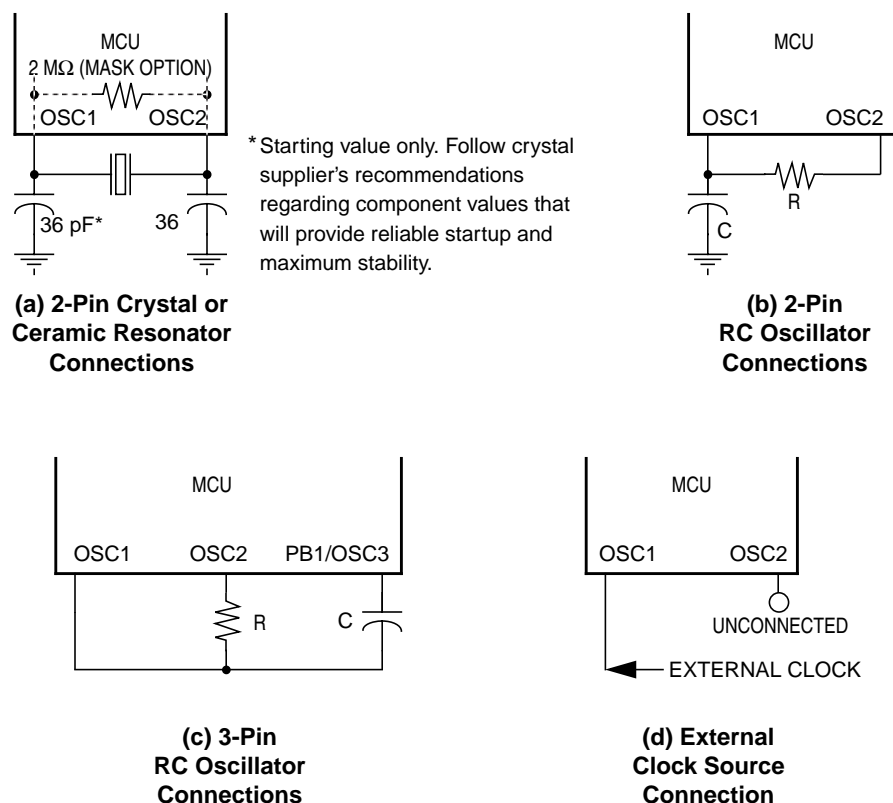

Figure 1-5. Oscillator Connections
1. A crystal, as shown in Figure 1-5\(a\)
2. A ceramic resonator, as shown in Figure 1-5\(a\)
3. An external resistor and capacitor using two pins, as shown in Figure 1-5\(b\)
4. An external resistor and capacitor using three pins, as shown in Figure 1-5\(c\)
5. An external clock signal, as shown in Figure 1-5\(d\)
The circuit in Figure 1-5\(a\) shows a typical 2-pin oscillator circuit for an AT-cut, parallel resonant crystal. The crystal manufacturer's recommendations should be followed, since the crystal parameters determine the external component values required to provide maximum stability and reliable startup. The load capacitance values used in the oscillator circuit design should include all stray capacitances. The crystal and components should be mounted as close as possible to the pins for startup stabilization and to minimize output distortion. An internal startup resistor of approximately 2 M Ω is provided between OSC1 and OSC2 when the crystal/ceramic resonator oscillator option is used.
In cost-sensitive applications, a ceramic resonator can be used instead of the crystal. The circuit in Figure 1-5\(a\) is designed for either a crystal or a ceramic resonator. The resonator manufacturer's recommendations should be followed, since the resonator parameters determine the external component values required for maximum stability and reliable starting. The load capacitance values used in the oscillator circuit design should include all stray capacitances. The ceramic resonator and components should be mounted as close as possible to the pins for startup stabilization and to minimize output distortion. An internal startup resistor of approximately 2 MΩ is provided between OSC1 and OSC2 for the crystal/ceramic resonator oscillator mask option.
The 2-pin RC oscillator configuration can be used for very low-cost applications. With this option, a resistor must be connected between the two oscillator pins and a capacitor must be connected from the OSC1 pin to V_{SS} , as shown in Figure 1-5\(b\). The signal on the OSC2 pin is a square wave and the signal on the OSC1 pin approximates a triangular wave.
Another low cost, but more accurate, type of RC oscillator is the 3-pin configuration utilizing the PB1/OSC3 pin. With this option, a resistor must be connected between the OSC1 and OSC2 pins and a capacitor must be connected between the OSC1 and PB1/OSC3 pins, as shown in Figure 1-5\(c\). This 3-pin RC oscillator is more accurate than the 2-pin RC oscillator with respect to temperature, supply voltage, and/or device processing variations. The signal on the OSC2 and PB1/OSC3 pins is a square wave and the signal on the OSC1 pin approximates a triangular wave.
An external clock from another CMOS-compatible device can be connected to the OSC1 input, with the OSC2 input not connected, as shown in Figure 1-5\(d\). This configuration is possible regardless of whether the oscillator is set up for crystal/ceramic resonator, 2-pin RC, or 3-pin RC operation. However, if the 3-pin RC oscillator is selected, the PB1/OSC3 pin also must be left unconnected.